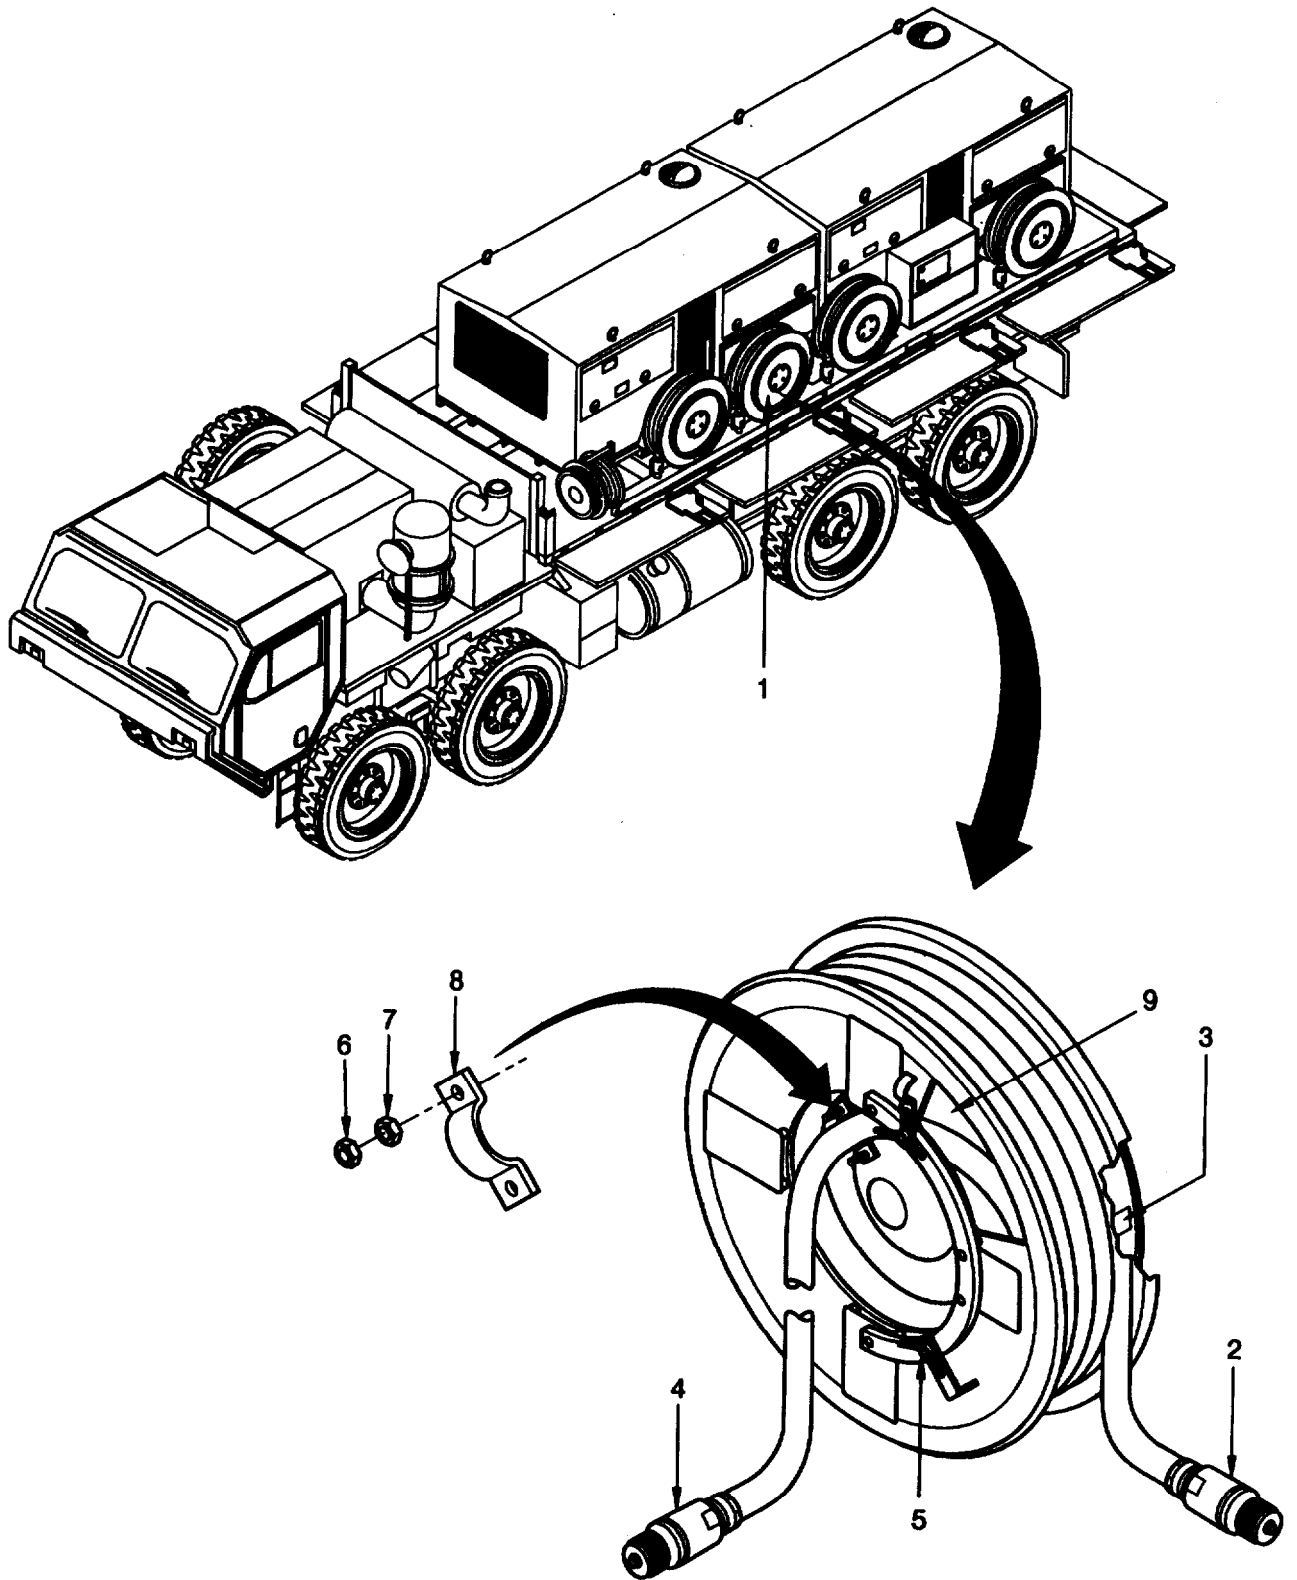

Figure 4-16 Power Cable.
- **After unwinding the cable drum, make sure the ratchet (3, figure 4-16) is engaged The cable drum spring is fully tensioned after 15 revolutions.**
- a. Swing cable drum (1, figure 4-16) forward into operation position and lock in place.
- b. Unwind cable section with plug (2) completely off the cable drum.
- c. Unwind cable section with plug (4):
- (1) Loosen both mounts (5), swing inward, and tighten so that cable is exposed.
- (2) Unwind cable by hand.
- d. Remove two nuts (6, 7) with clamp (8). Pull the cable completely out of the cable drum through slot (9).